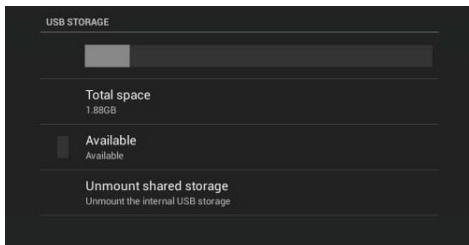

FIG. 16 USB Storage
- If a USB storage option is connected to the panel, the USB Storage section will display the panel's total used space and total available space, as well as give the option to unmount the storage device (FIG. 16).
2. This opens the *Unmount USB storage?* window (FIG. 16):